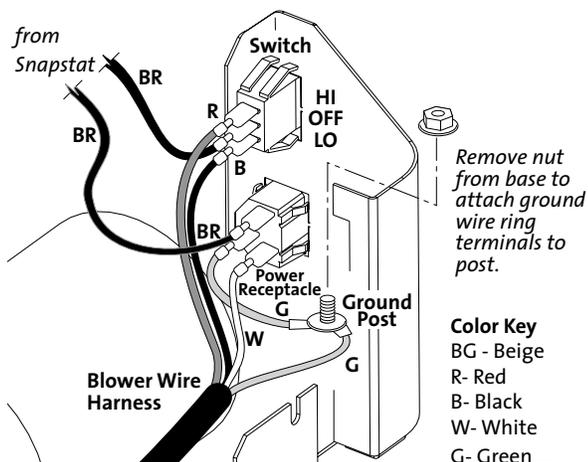

Figure 16. Wiring orientation.
11. Connect the loose wires as shown in fig. 16.